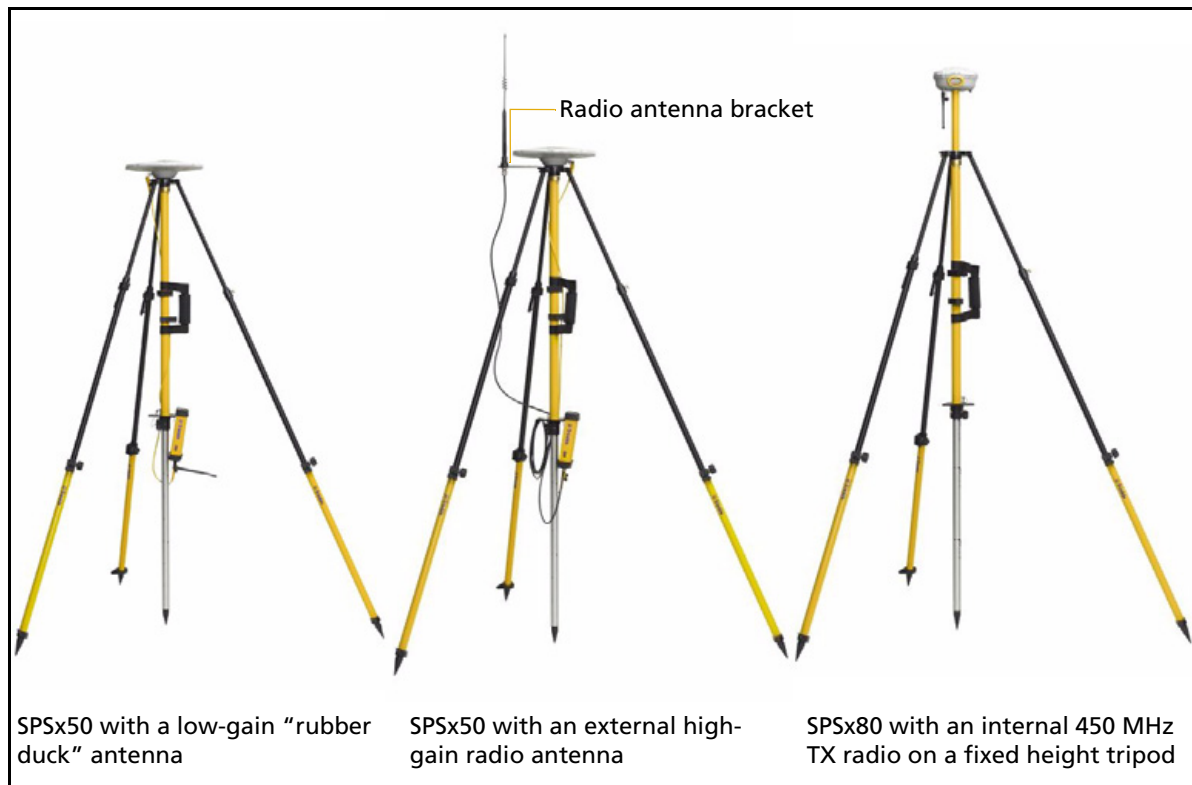

Figure 5.4 Fixed height tripod setup for the SPSx50 and SPSx80
3. If using an external high-gain radio antenna, mount the radio antenna to the radio antenna bracket that is attached to the head of the tripod (beneath the GPS antenna). See Figure 5.4.